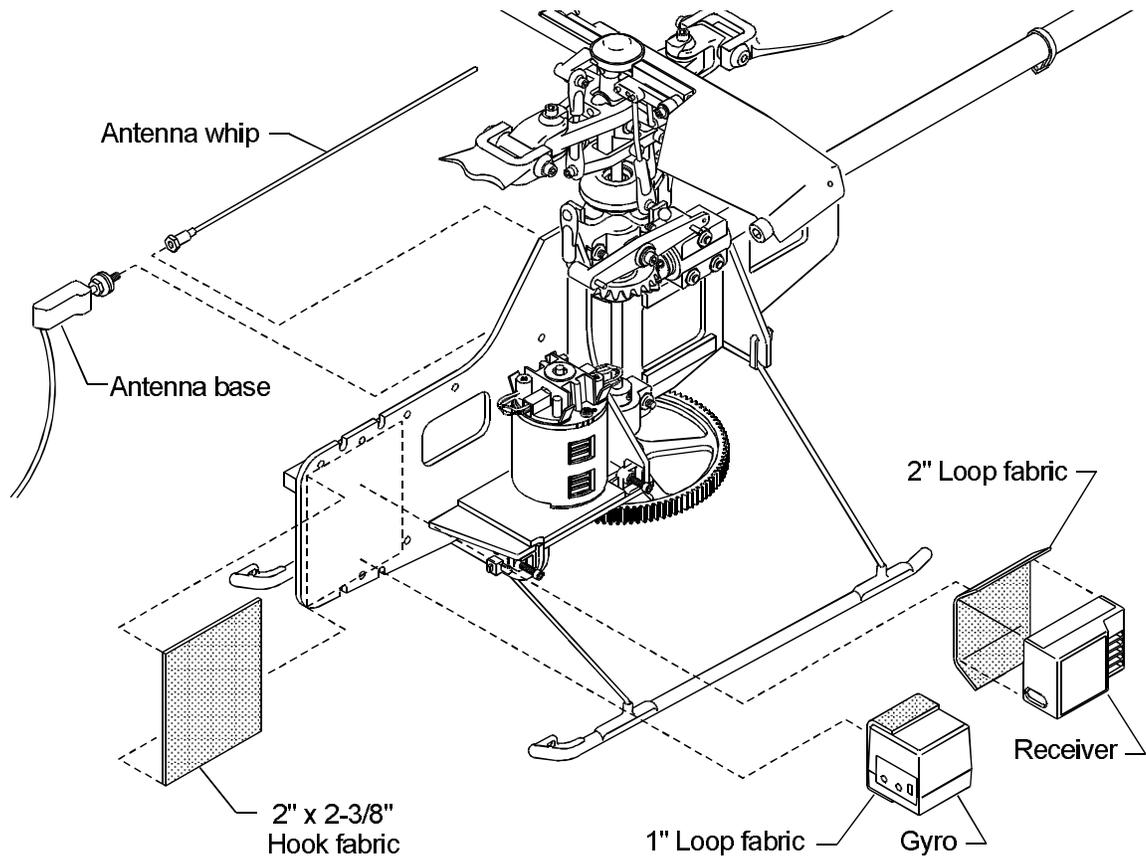

Figure 12-1.
- ❑ 3. Cut a 2" x 2-3/8" (51mm x 60mm) piece of **HOOK** fabric as shown in Fig. 12-1, and apply it to the keel. Use only the **HOOK** part of the fabric (not the loop part), and do not cover any holes in the keel.